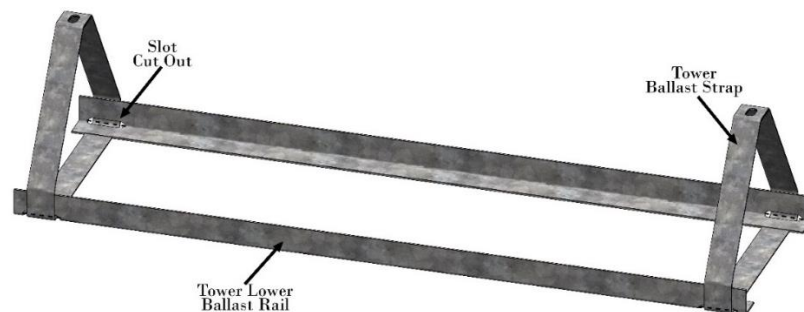

Figure 11 Tower ballast strap assembly
1. Locate a tower Lower Ballast Rail and align the 2 tower ballast straps to the ends of each end of the lower ballast rail. Center both tower ballast straps within the slots cut out of the tower lower ballast rail as per Figure 11.